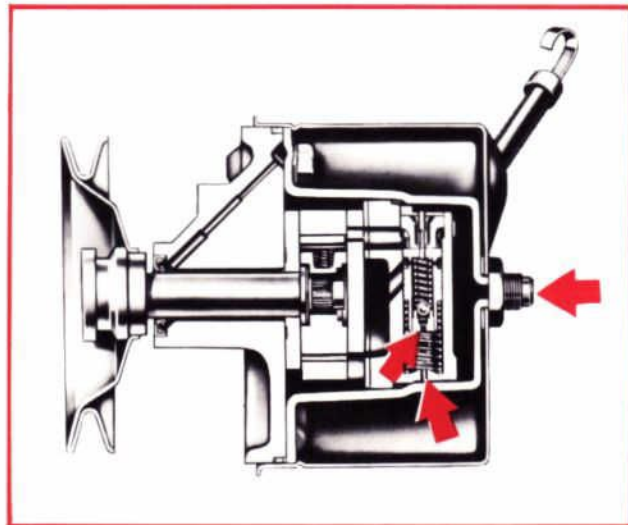

Figure 20—Orifice and Relief Valve Problems Causing Low Pressure
- A damaged ball or seat in the relief valve may cause low output pressure. A relief valve ball sticking open or not seated within the valve cover will also cause low pressure (figure 20).
- A plugged sensing orifice in the valve housing can cause a considerable pressure drop, as can a plugged outlet orifice (figure 20).